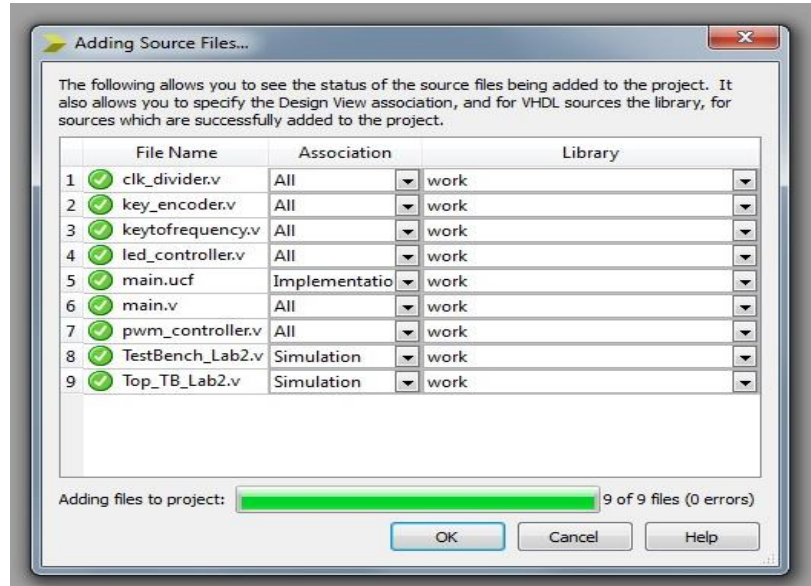

Fig. 3: Associating testbench files with Simulation
2. When adding all the source and testbench files, select the association of files as shown in Fig. 3. Modify the source files (key\_encoder.v, keytofrequency.v, clk\_divider.v) by the tips in comments.